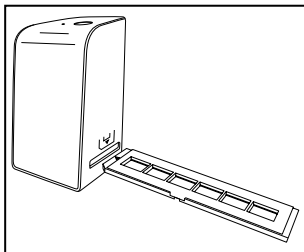

Figure 1
- ◆ Unlock the catch on the front of the negative holder ❺ and open the holder.
- ◆ Now insert the negative holder ❺ with the triangle marking at the front and visible into the slot ❹ on the right (see figure 1).
- ◆ Push the negative holder ❺ into the slot ❹ until it audibly clicks into the first position. For additional negatives, push the negative holder ❺ further in until it audibly clicks into the next position.